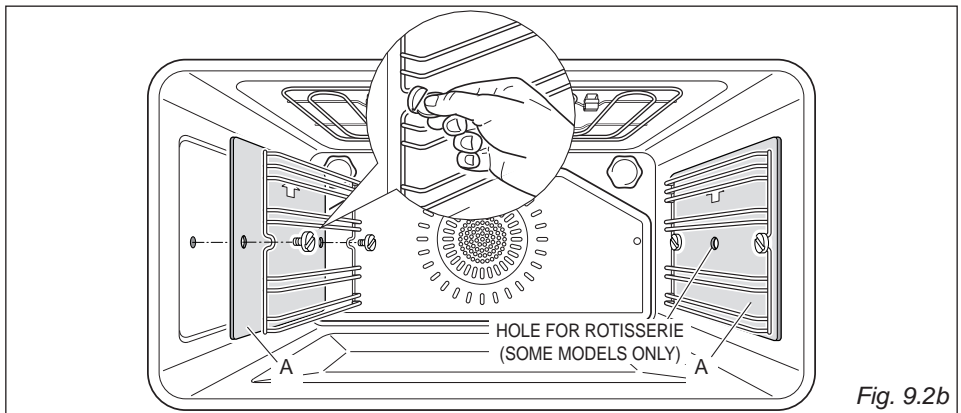

Fig. 9.2b
- Assemble the wire racks to the oven walls using the 2 screws (fig. 9.2b).
- Screw the side racks onto the oven wall (interposing the catalytic panels if supplied) (fig. 9.2b).
- Remove the side racks (and the catalytic liners if supplied) by unscrewing the fixing screws (fig. 9.2b).